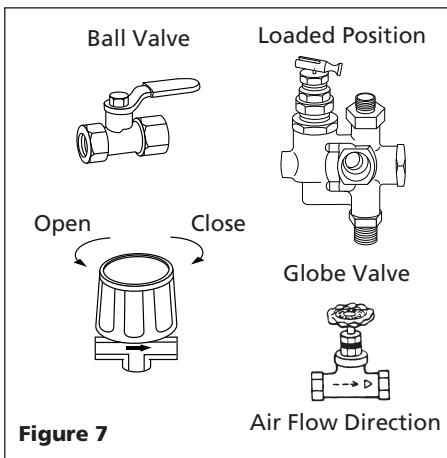

Figure 7
- After approximately 30 minutes, move the unloader lever down to the loaded position and turn the regulator knob clockwise (See Figure 7). The compressor will begin to pump air into the tank.